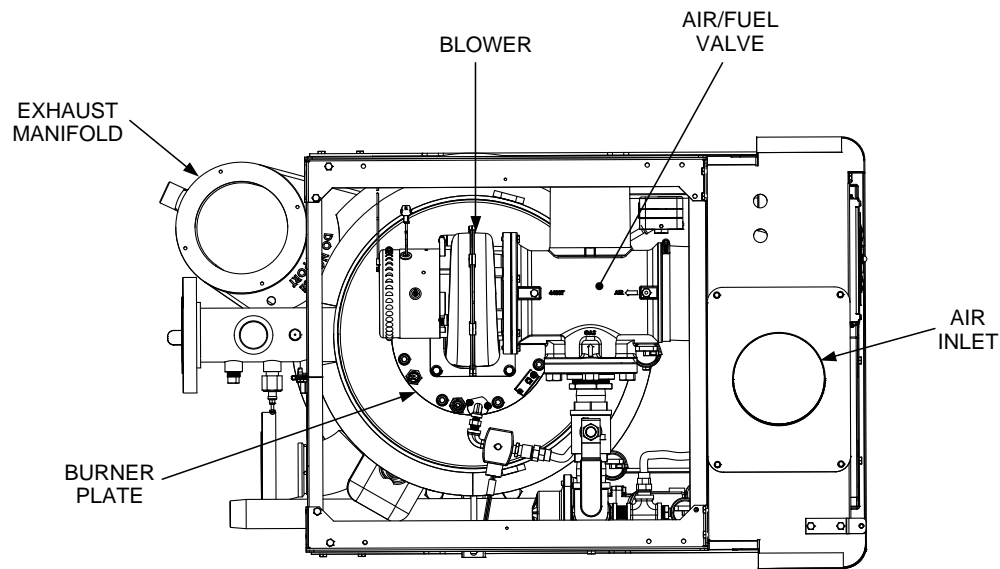
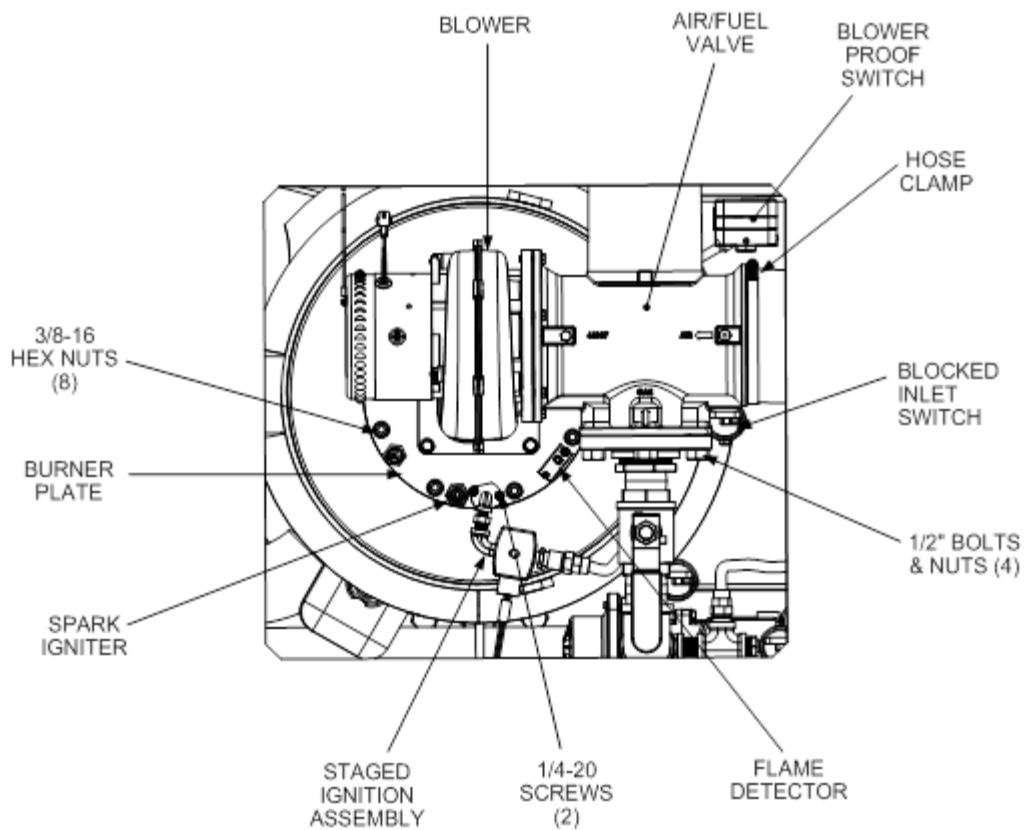
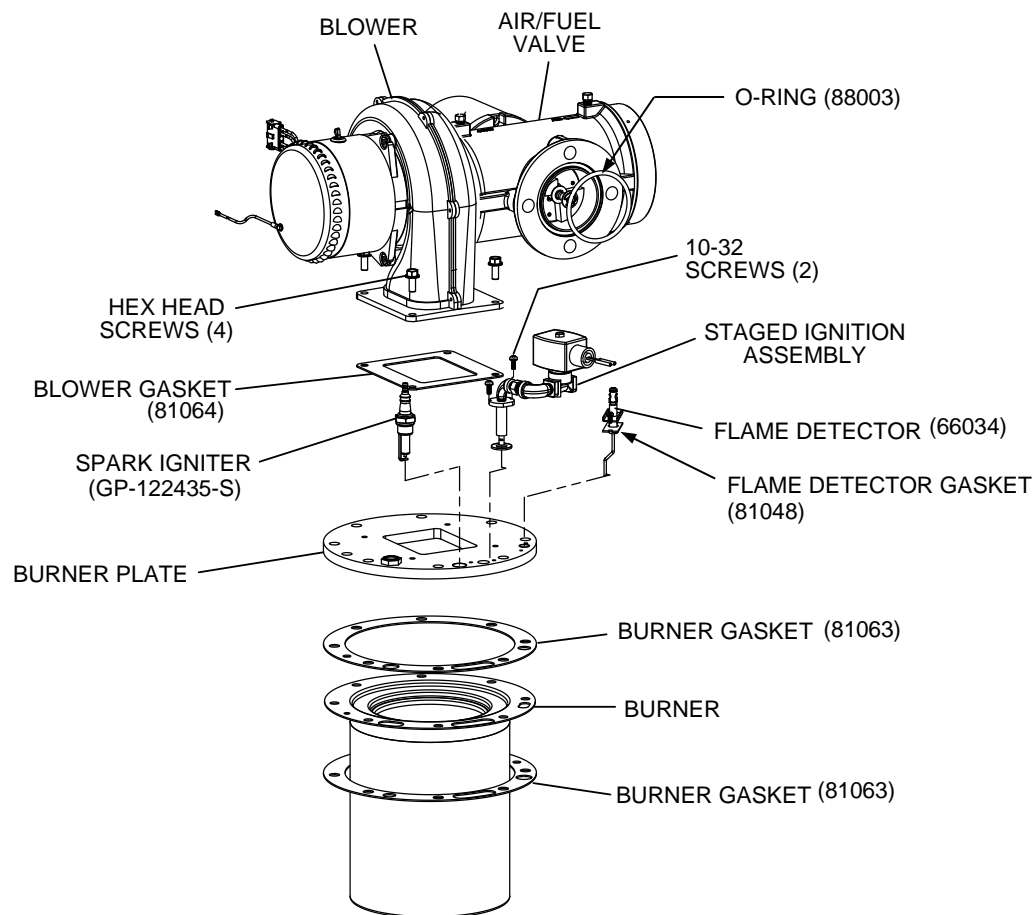

Figure 4. Benchmark 1.5LN - Top View
Figure 5. Benchmark 1.5LN Burner Assembly Removal
Figure 6. Benchmark 1.5LN Burner Assembly Exploded View
The burner assembly is located at the top of the heat exchanger, as shown in Figure 4. As this illustration shows, the complete burner assembly also includes the unit's blower and air/fuel valve assemblies. Figure 5 shows the burner assembly mounting details and Figure 6 shows the complete burner assembly removed from the unit.
2. Disconnect the lead wire from the flame detector, shown in Figure 5, below.
3. Remove the two (2) screws securing the flame detector to the burner plate and then remove the flame detector and gasket.
4. Disconnect the igniter cable from the igniter (Figure 5), then unscrew and remove the igniter.
7. Disconnect the Fast-On wire leads connected to the blower proof switch and blocked inlet switch (Figure 5).
9. Disconnect the gas train from the air/fuel valve flange by removing the four (4) 1/2" bolts and nuts (Figure 5). Discard the O-ring, as it will be replaced by a new one included with the kit (part no. 88003).
10. Disconnect the inlet air flex hose from the air/fuel valve by loosening the hose clamp (Figure 5).
11. Remove the four (4) 5/16-18 hex head screws securing the blower to the burner plate (Figure 6).
13. Next, remove the eight (8) 3/8-16 nuts from the burner flange using a 9/16" wrench.